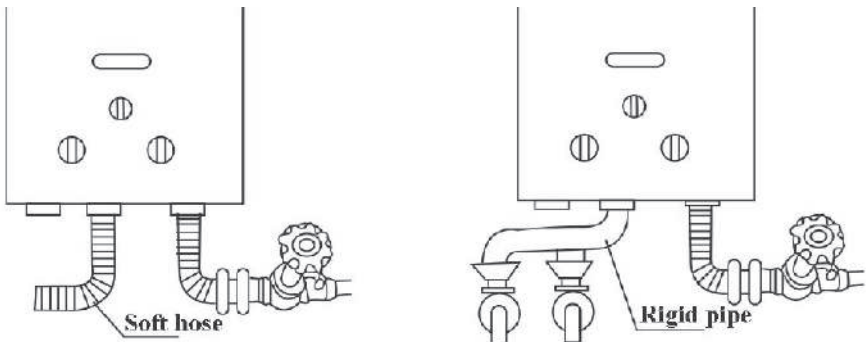

Fig. 6
- The hot water supply pipeline can be connected by metal soft hose (as short as possible), or directly connected by a rigid water pipe. The rigid pipe is suitable for deoxidizing copper pipe or stainless steel pipe. For long-distance hot water supply, it is best to install a control valve on the hot water supply pipeline(Fig.6).